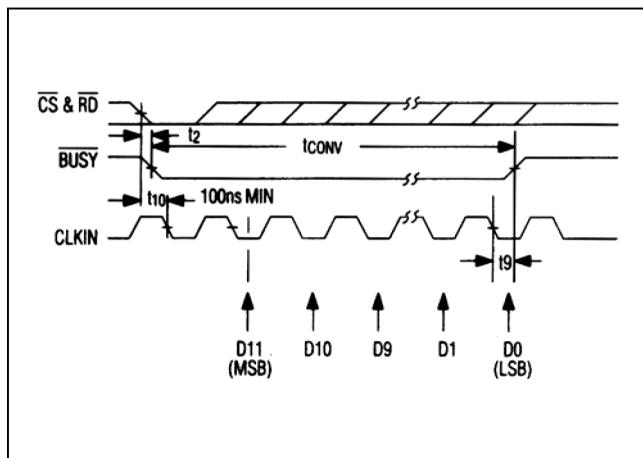

Figure 7. MX7672  $\overline{\text{RD}}$  and  $\text{CLKIN}$  for Synchronous Operation and Conversion Time of 12.5 Clock Cycles
**Timing Characteristics**(VDD = +5V, VSS = -12V, 100% production tested, unless otherwise noted.) (Note 3, Figures 7, 9, 10)
the conversion time is  $3.125\mu\text{s}$  when  $f_{\text{CLK}} = 4\text{MHz}$ ,  $5\mu\text{s}$  when  $f_{\text{CLK}} = 2.5\text{MHz}$ , and  $10\mu\text{s}$  when  $f_{\text{CLK}} = 1.25\text{MHz}$ . The delay from the falling edge of  $\overline{\text{RD}}$  to the falling edge of  $\text{CLKIN}$  must not be less than  $100\text{ns}$  to ensure the 12.5 clock cycle conversion time (Figure 7). This gives the external sample-and-hold 1.5 clock cycles to settle from hold transients. An additional 1/2 clock cycle of settling can be allowed for the sample-and-hold by having  $\overline{\text{RD}}$  go low at the falling edge of  $\text{CLKIN}$ . This results in a 13-cycle conversion time ( $3.25\mu\text{s}$ ,  $5.2\mu\text{s}$ , and  $10.4\mu\text{s}$ ).